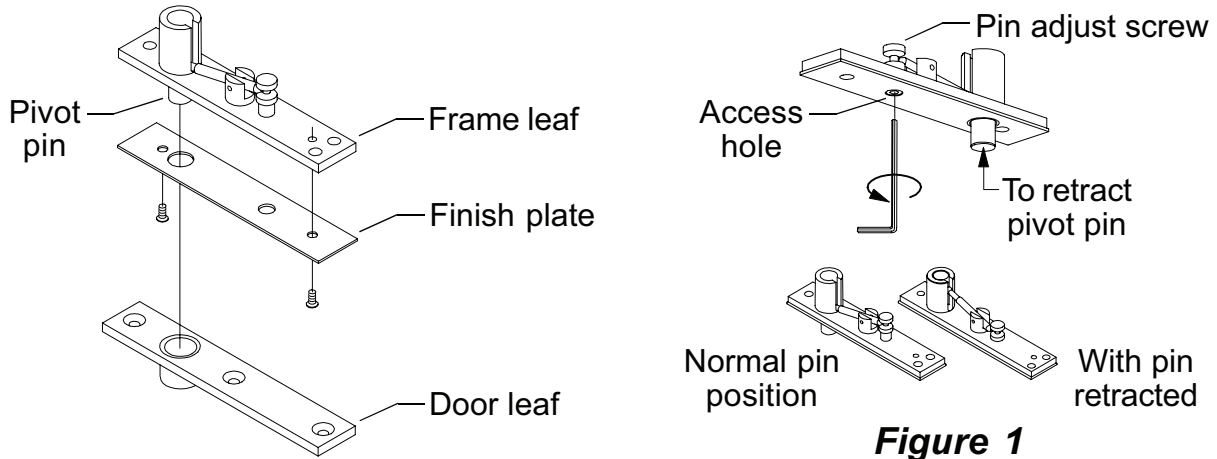

Figure 1
3. The pin of top pivot set should be retracted now for ease of installation. Insert 5/32" Allen wrench through access hole and into pin adjustment screw. Rotate Allen wrench counterclockwise until pivot pin is completely retracted (Figure 1).
5. With door in open position (about 90° to jamb), carefully fit door onto bottom pivot. Refer to bottom pivot instruction sheet. With door in vertical position, **align top pivot leaves in door and jamb.** With pivot leaves aligned, insert 5/32" Allen wrench through access hole into pin adjustment screw. Rotate Allen wrench clockwise until pin adjust screw seats and pivot pin is in normal position (Figure 1). The door should now swing freely. If it does not, double check templating dimensions.